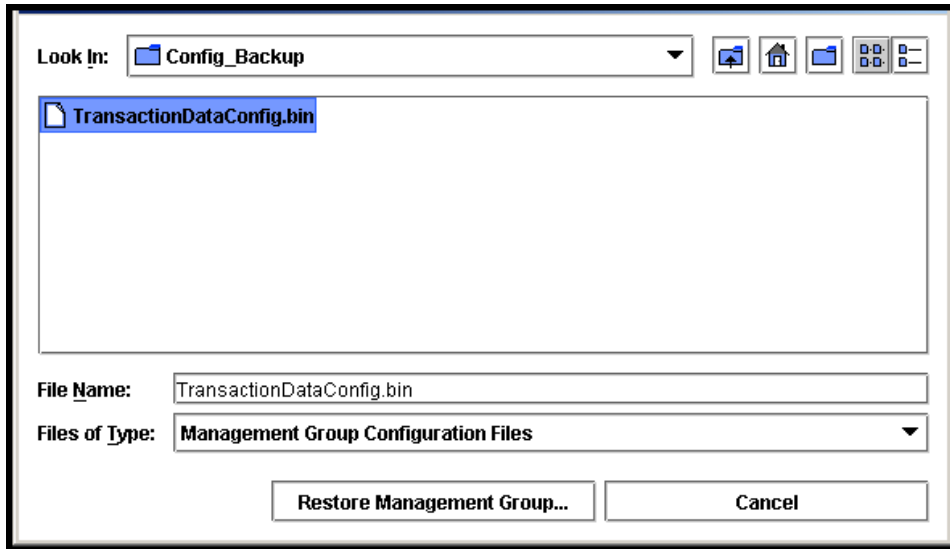

Figure 147. Opening the Configuration Binary File
2. Right-click in the Network view and select Restore Management Group. A standard Open window opens, shown in Figure 147.